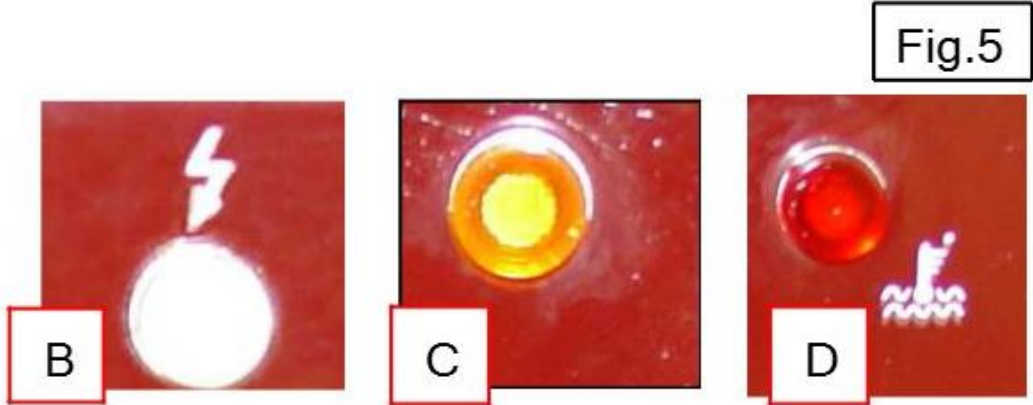

Fig.5
- 2) The white indicator lights up (showing that the appliance is functioning) (Fig. 5-B)
The amber indicator lights up (Fig. 5-C)
- 4) Before starting up the filtration pump Check that the red indicator is unlit (Fig. 5-D)